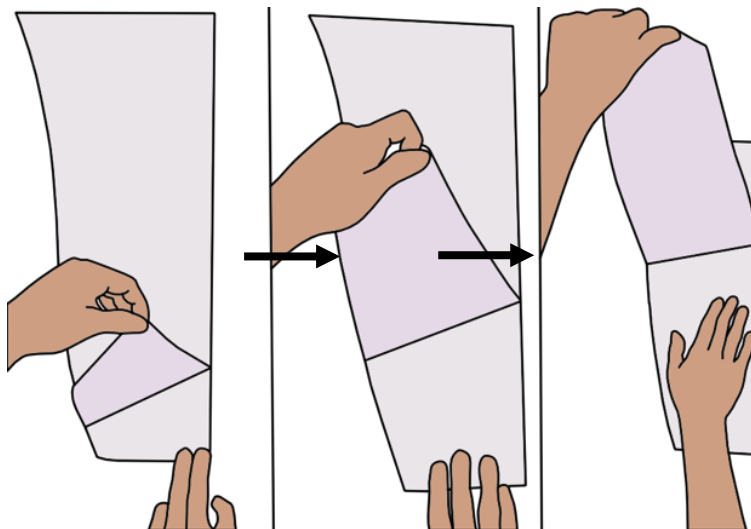

Figure 8. Removing Fascia from Release Liner
- a. To prepare the fascia for installation, the fascia must be removed from its release liner (**Figure 8**). Lay the fascia up right, so the fascia's number is on the right side. Begin to remove the fascia by pulling up while holding the release liner down.